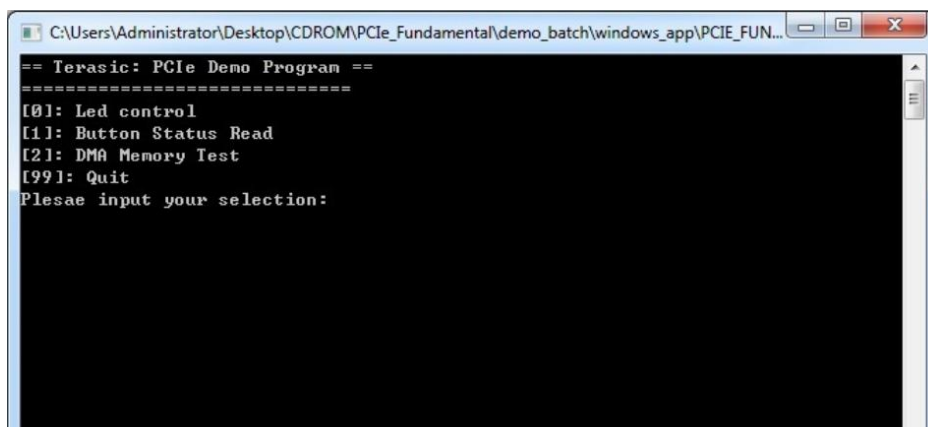

Figure 7-11 Screenshot of Program Menu
- Goto windows_app folder, execute PCIE_FUNDMENTAL.exe. A menu will appear as shown in **Figure 7-11**.